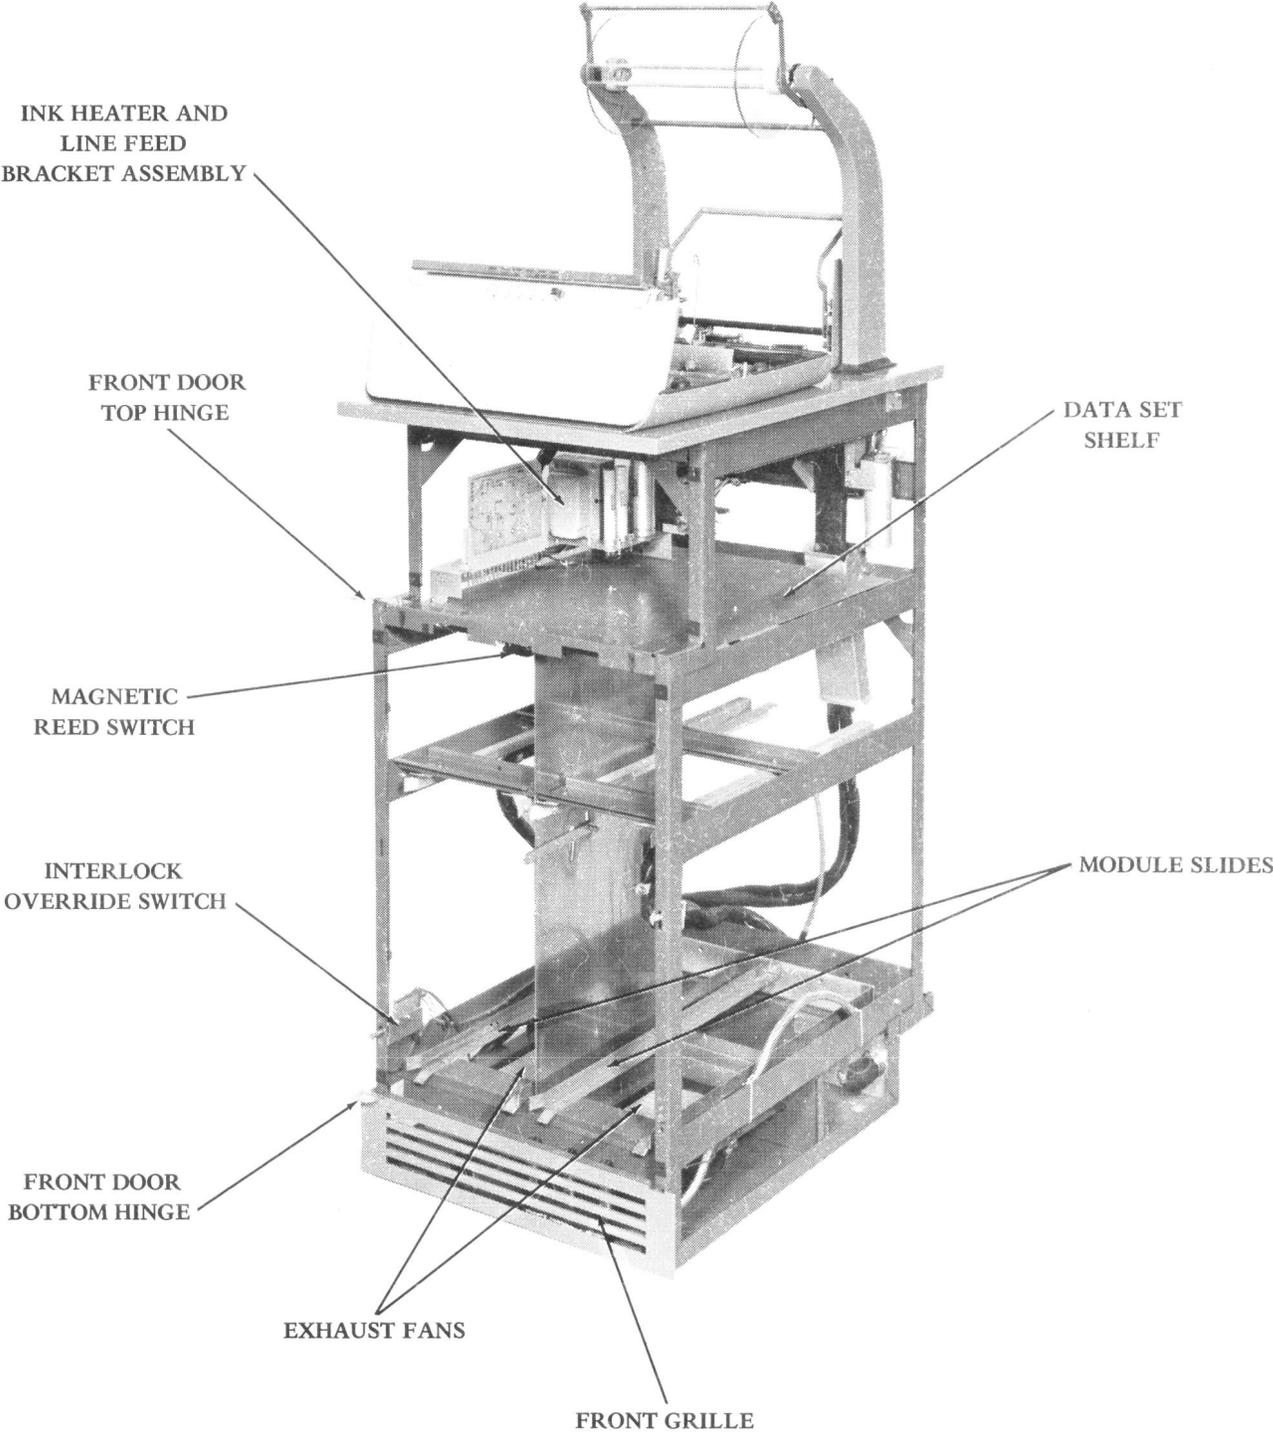

Figure 4 - Cabinet Frame Assembly
1.01 This section provides the description and principles of operation for the cover, base, cabinet, paper unwinder, and paper winder as used in the DATASPEED printer (receive-only). It is reissued to change the title and to show changes of the cabinet frame assembly (Figure 4 and 6). These changes are indicated by bracketed arrows. This section was formerly designated 592-820-112, but this number is now cancelled. Since this issue of Section 578-500-112 is a revision of Section 592-820-112, Issue 2, it is designated Issue 3.